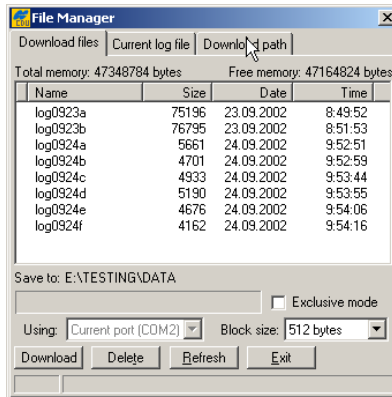

Figure 5-10. Find Files to Download
3. Click **File** ► **File Manager**, then click the **Download path** tab on the **File Manager** dialog box (Figure 5-10).